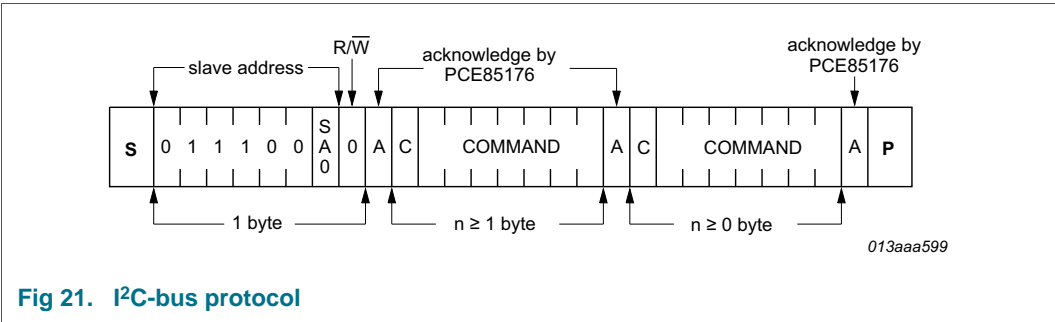

Fig 21. I²C-bus protocol
The I²C-bus protocol is shown in Figure 21. The sequence is initiated with a START condition (S) from the I²C-bus master which is followed by one of two possible PCE85176AUG slave addresses available.